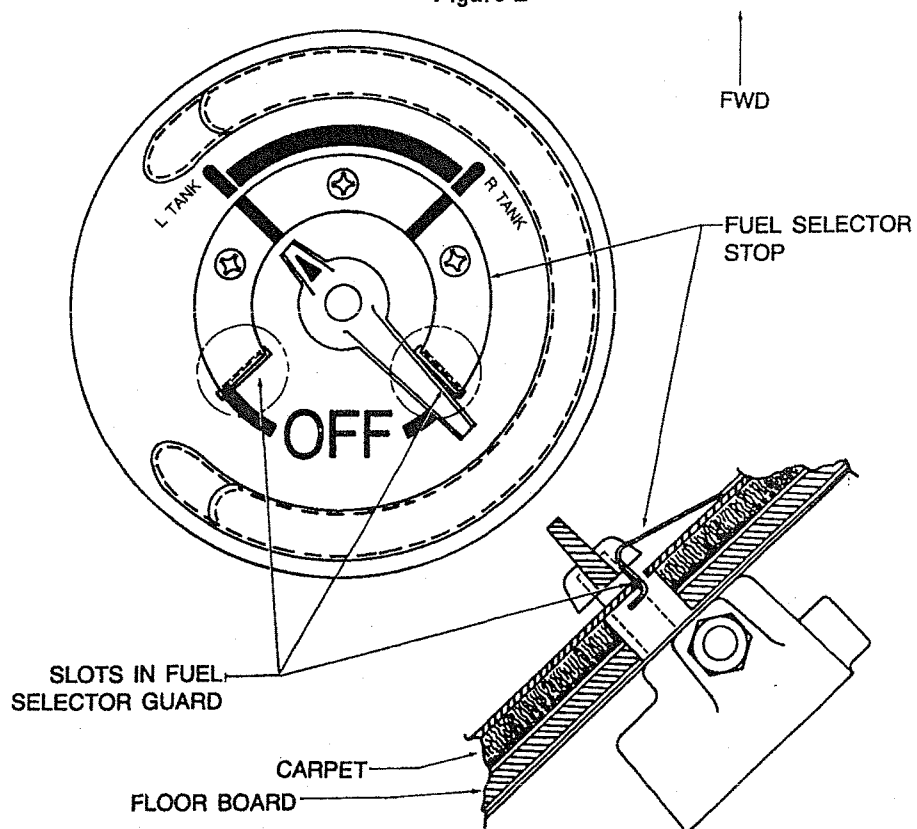

Figure 3
13. Mark and cut two slots .20 inch by .90 inch to clear the vertical legs of the selector stop, as shown in Figure 3.
15. Attach the fuel selector handle, and position the guard and the fuel selector stop so that the green radials on the guard and the fuel selector stop line up with each other and with the index on the fuel selector handle as shown in Figure 3. It may be necessary to trim the nap of the carpet under the flat surface of the guard in order to provide sufficient clearance between the guard and the fuel selector handle.
16. Without allowing the assembly to move, attach the fuel selector stop and the guard to the floorboard using three (3) P/N AN550-8R6 screws.